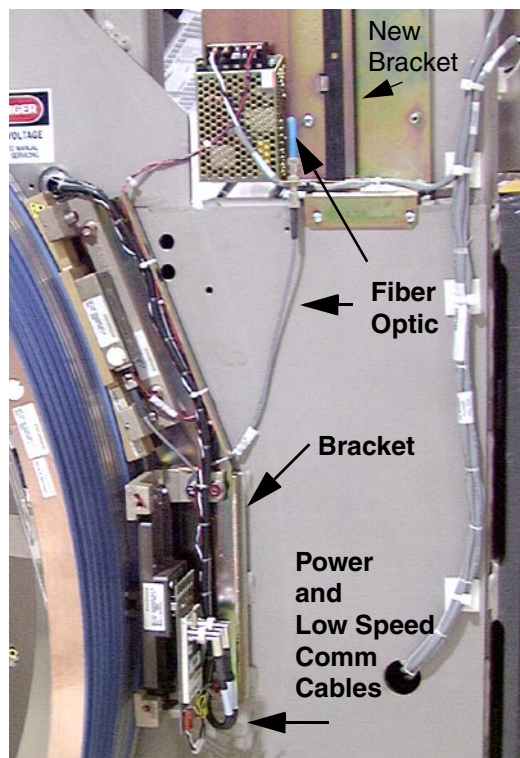

Figure 2-15 Lightspeed QXI Stationary Bracket and Wire Routing
Install the HSDCD bracket used on LightSpeed systems. This HSDCD bracket is also used on EMC and Non-EMC gantry's as a spacer for proper Transceiver circuit board alignment. Reference Figure 2-15 for location.
9.) Install HSDCD Gap Tool storage bracket. Reference Figure 2-15.
Use new fiber optic cable from transceiver to power pan, and route as shown in Figure 2-15 on page 30.
- 3.) Route coax and stationary transceiver cables along stationary bracket. Reference Figure 2-15 on page 30.
- 1.) Attach the Antenna/Receiver assembly to the stationary bracket use proper ESD procedures. Reference Figure 2-15 on page 30.